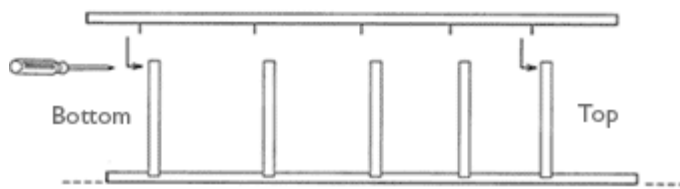

Figure 3
4. Repeat steps 2 and 3 with the left side rail (Figure 3).